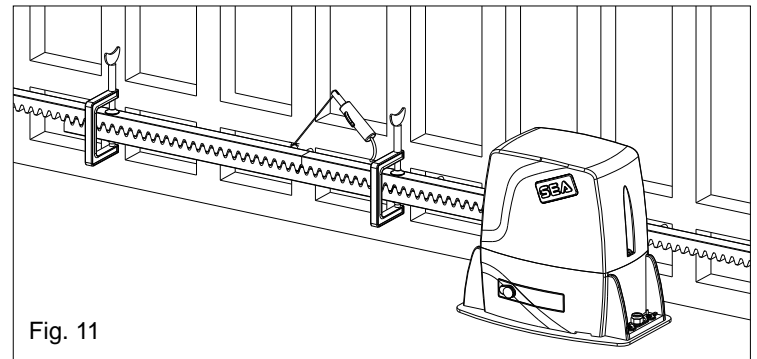

Fig. 11
**6.4.** Make sure that all the gear rack elements are perfectly aligned and placed correctly (teeth in phase). It's suggested to place two aligned elements in front of a third one as shown in Fig. 11;